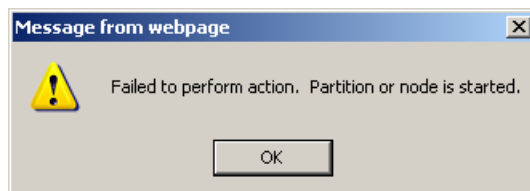

Figure 8-37 Partition creation failure message due to blades being in a powered on state
3. Ensure that both HX5s are powered off by looking at the Status column in the Unassigned Nodes section. If the systems are *not* in a Powered Off state, the following warning message (Figure 8-37) displays when you attempt to create a partition.